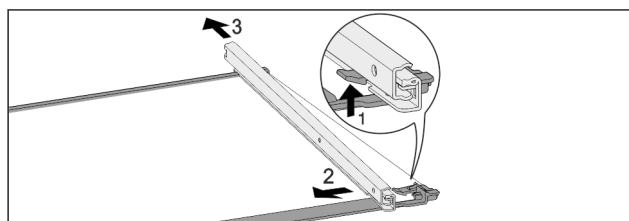

Fig. 165 Glass shelf with rails
- ▶ Push up front click-in hooks. *Fig. 165 (1)*
- ▶ Move the pull-out rails to the side *Fig. 165 (2)* and to the rear *Fig. 165 (3)*.